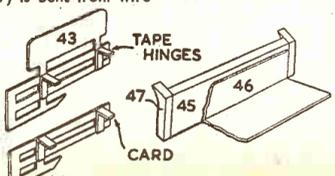

Fig. 8—The lifeguards
Fig. 8 shows pieces 45, 46 and 47 glued together. These are glued under the floor (3) directly under pieces 6 and 7. Piece 47 is clearly shown in the finished
sketch. Small tape hinges are attached to pieces 43 which are hinged to the underside of piece 4. This allows the step to be up or down. It is shown up, in the finished sketch, but on the other side it will be down, to allow passengers to alight. Pieces 44 will be glued in place by means of small card strips (see Fig. 8) and they will be positioned on the opposite side to the step (43). The longer guards (42) will be glued similarly in place across the underside of piece 4.